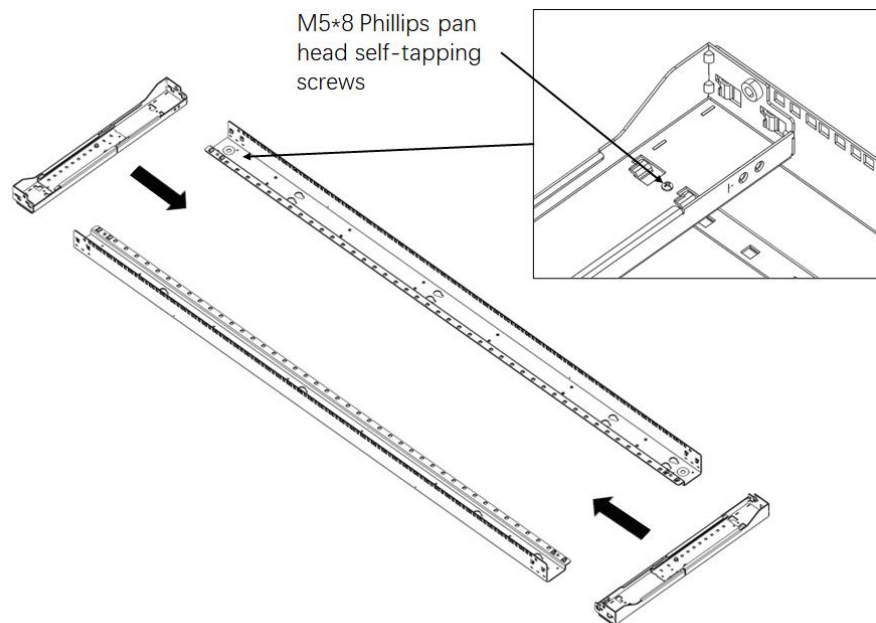

Figure 4
1) Assemble two beams and two posts together as shown in Figure 4. Use 4 M5*8 Phillips pan head self-tapping screws to secure the four mounting holes. Torque=4.7N·m.